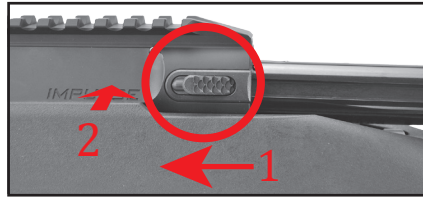

Figure 9
3. With the **Bolt Assembly** at its rearmost travel in the receiver, it will be stopped by the bolt release. Without holding the **Bolt Assembly**, slide the **Bolt Release** forward and depress it into the receiver – see Figure 9.